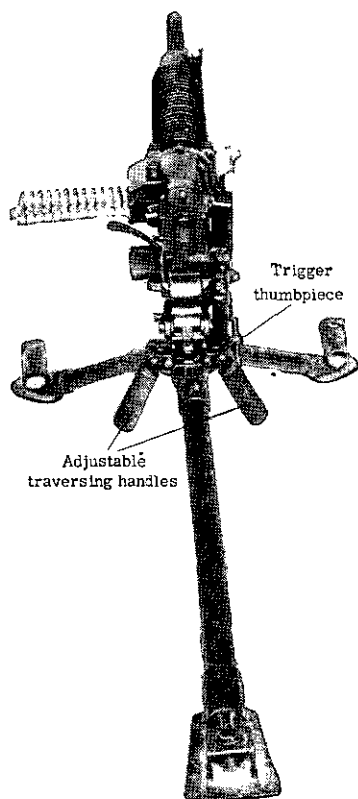

Figure 69.—Model 92 (1932) 7.7-mm heavy machine gun (rear view).
- (1) The large radiating rings (air-cooling flanges).
- (2) The adjustable traversing handles (figs. 69 and 70).
- (3) The cocking handle on the right side.
- (4) The trigger thumbpiece (figs. 69 and 70).
(1) *Safety*.—Turn the trigger thumbpiece clockwise for “safe.” When the feed strip is removed, the bolt is locked in the rear position. When a strip is inserted and the bolt is unlocked, the gun can be fired by pressing on the trigger thumbpiece (figs. 69, 70, and 75).